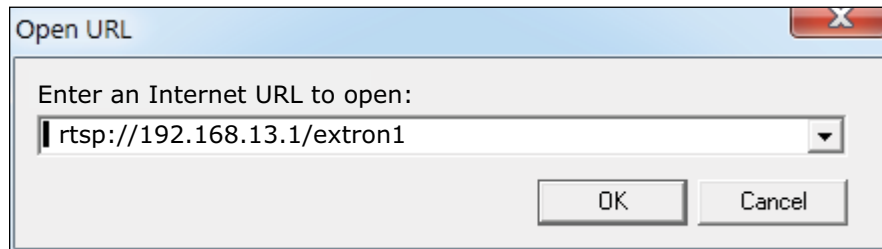

Figure 108. Enter Stream URL Information
6. The **Open URL** dialog opens (see figure 108). In the **Enter an Internet URL to open:** field, enter the stream URL that was noted in step 3 on the previous page.